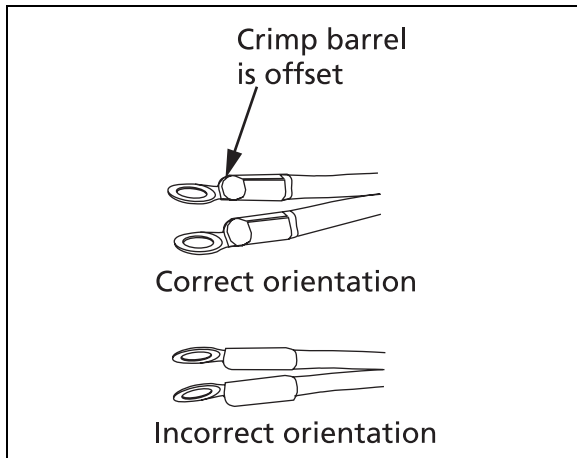

Figure 9. Orientation of Line Cord Screw Lugs
- From the outside of the housing, slide the screw lugs of a new line cord through the hole in the end of the test set housing. Make sure the crimp barrel offset side of the screw lugs is up (see Figure 9) and that the line cord screw lugs are flush against the circuit board.